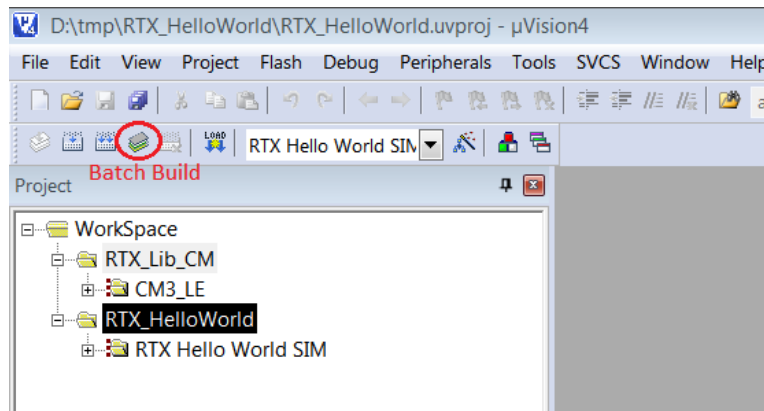
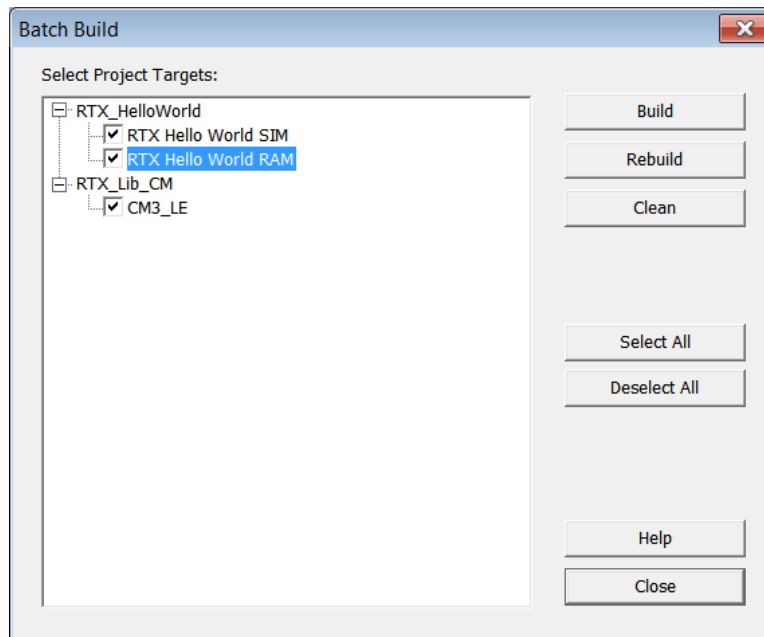

Figure 1.23: Keil IDE: Workspace with Two Projects
Figure 1.24: Keil IDE: Batch Build
4. Two projects appear under the Project Window (see Figure 1.23). Click the Batch Build button (see Figure 1.23 to bring up the Batch Build window. Select all the targets you want to build in a batch (see Figure 1.24). By setting up batch build, multiple targets can be built by a single click of the Build button inside the batch build dialogue box².